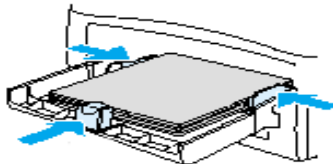

Figure 9. Closing the Media Guides
11. Slide the side guides and front guide until the guides are flush with the media. Figure 9 shows the location of the media guides.